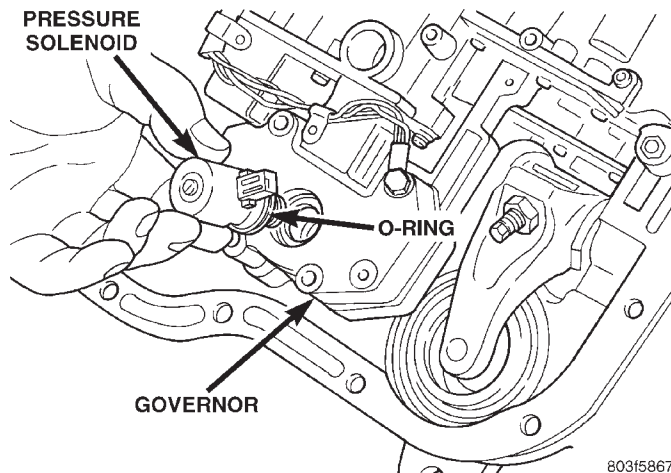

Fig. 65 Governor Pressure Solenoid
(6) Remove governor pressure solenoid by pulling it straight out of bore in governor body (Fig. 65). Remove and discard solenoid O-rings if worn, cut, or torn.